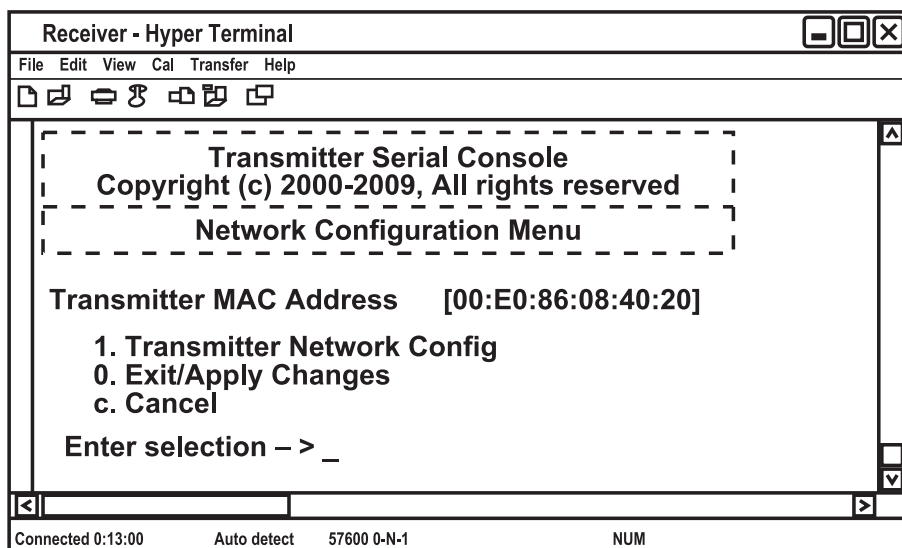

Figure 4-9. Network Configuration Menu.
4. Press 1 to select the Network Configuration option and press "Enter." (See Figure 4-9.)